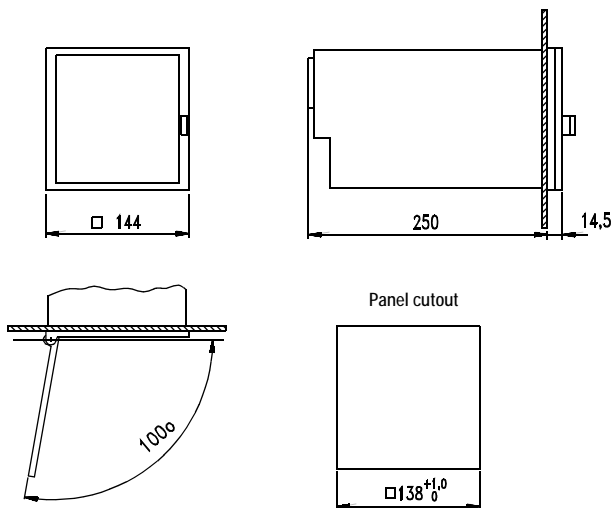
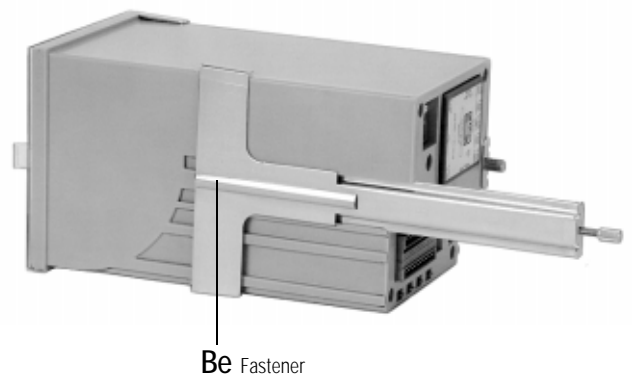

Figure 2 Dimensional drawing LINAX 4000L (dimensions in mm)
Figure 3 Mounting the fasteners
(see figure 2 and figure 3)
2. At the sides of the case, slide the fasteners **Be** into the guide grooves (see figure 3).
2. Slide the fasteners **Be** into the guide grooves at the sides of the case (see figure 3).